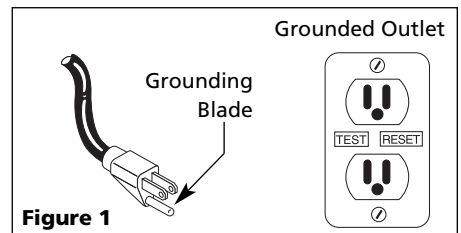

Figure 1
- This equipment is only for use on 120 volt (single-phase) and is equipped with an approved 3-conductor cord and 3-prong, grounding-type plug as shown in Figure 1.
To reduce the risk of electric shock, the motor must be securely and adequately grounded. This can be accomplished by inserting plug directly into a properly installed and grounded 3-prong, grounding-type receptacle (as shown in Figure 1).
13. It is strongly recommended that this unit is plugged into a Ground Fault Circuit Interrupter (GFCI). Consult a local electrician for installation and availability (See Figure 1).